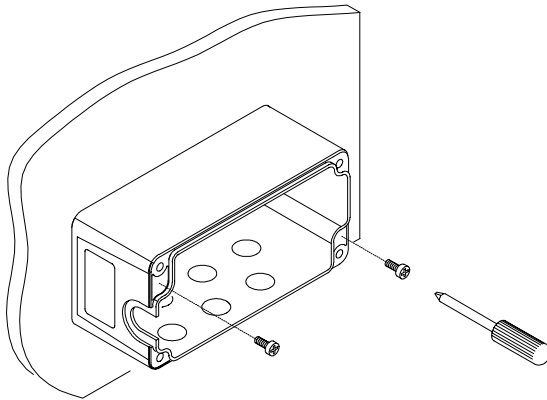

Figure 7 - Mounting Junction Box
- 2) Align the junction box and insert the two self-threading screws with their washers and screw them into the panel until tight (see Figure 7).